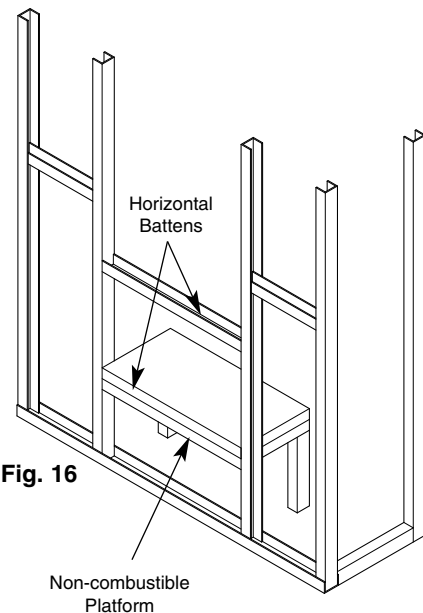

Fig. 16
4. Construct a suitable non-combustible platform large enough to sit the fire box on and level with the top of the lower horizontal batten (Fig. 16).